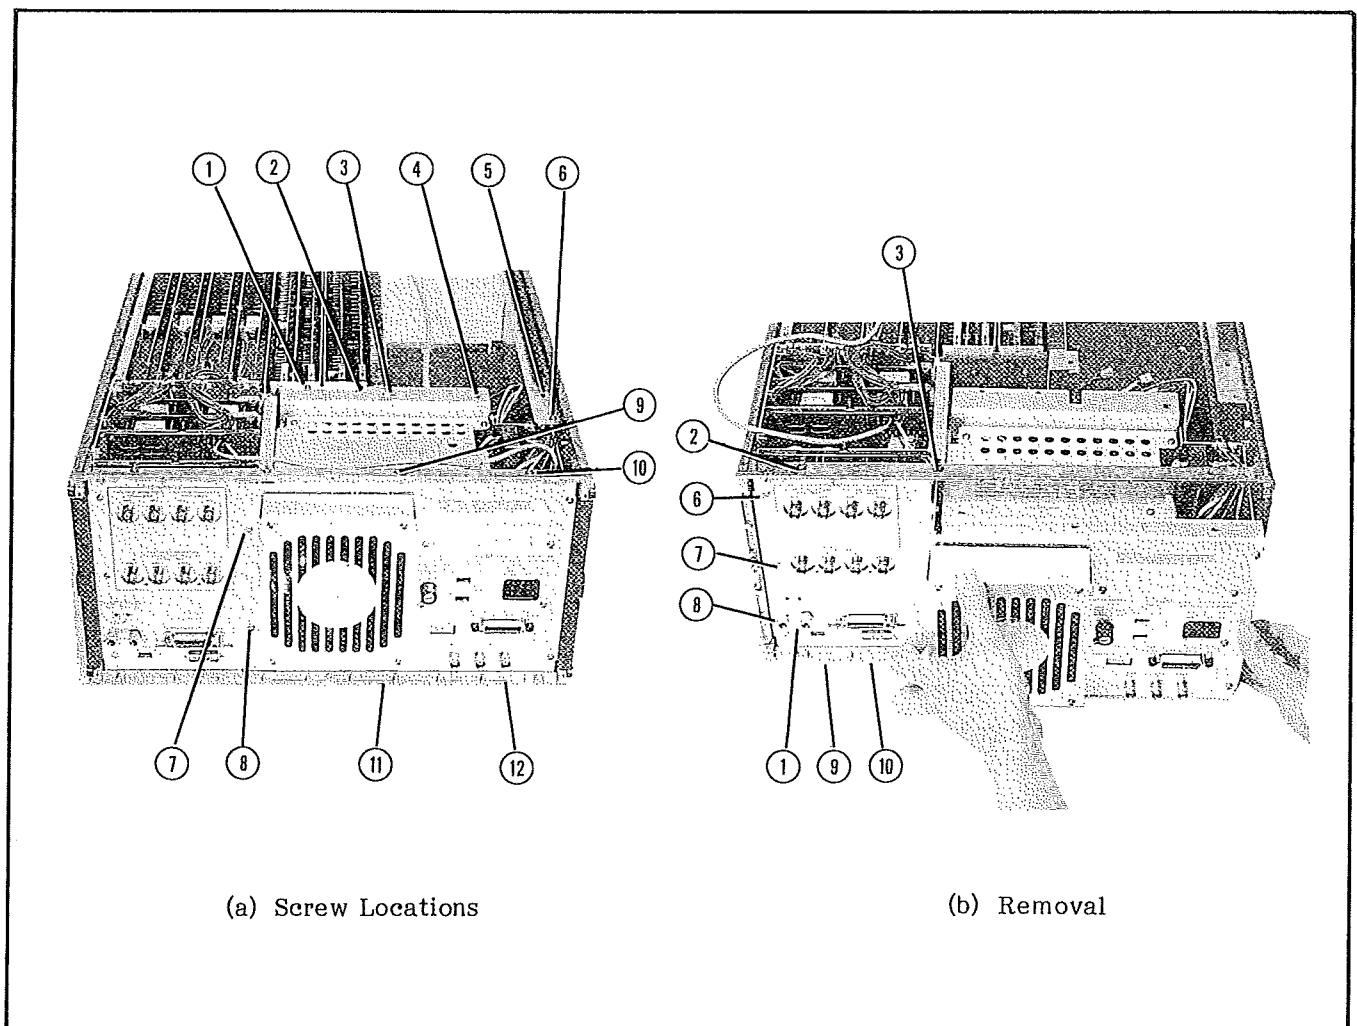
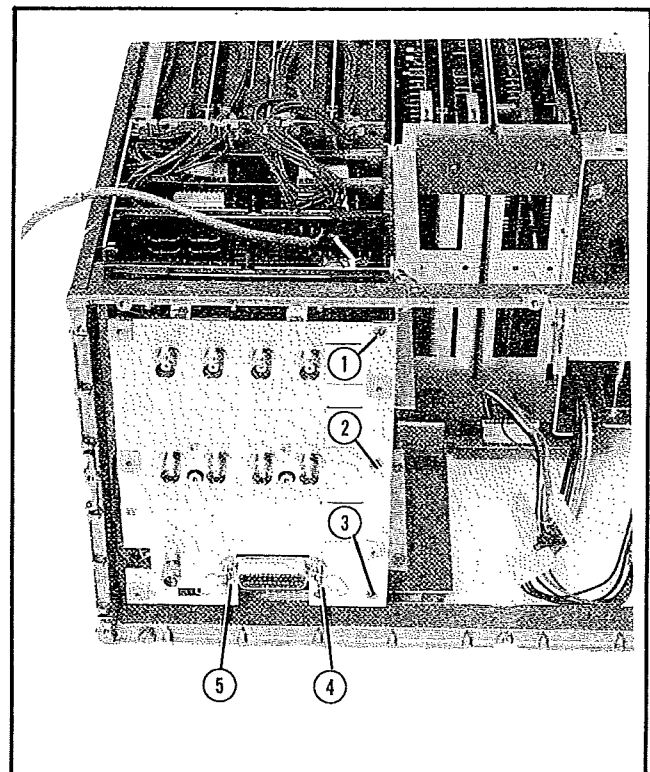

Figure 8-7. Rear Assembly A Removal.
Figure 8-9. Rear Assembly B Removal.
The A11 and A12 boards are mounted on rear assembly A; the A19 board is mounted on rear assembly B. Refer to Figures 8-7 and 8-9, respectively.
- (1) Remove the top and bottom covers.
- (2) Remove the left side-cover.
- (3) Remove screws ① through ⑫. Refer to Figure 8-7 (a).
- (4) Disconnect all cables.
- (5) Carefully pull out the assembly as shown in Figure 8-7 (b).
- (1) Remove Rear Assembly A as described in paragraph 8-28.
- (2) Disconnect the Shorting Bar (① in Figure 8-7 (b)).
- (3) Remove screws ② through ⑩. Refer to Figure 8-7 (b).
- (4) Remove the outer panel.
- (5) Remove screws ① through ⑤. Refer to Figure 8-9.